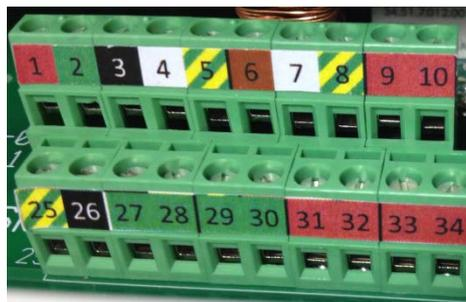

Figure 6: Connection chamber
4. Install each wire into the terminal block (Figure 6 on page - 13 -) using Table 3 on page - 13 - and as a reference for cable connections. Tighten each wire and then tug gently to make sure the connection is tight.
4. Install each wire into the terminal block (Figure 6) :